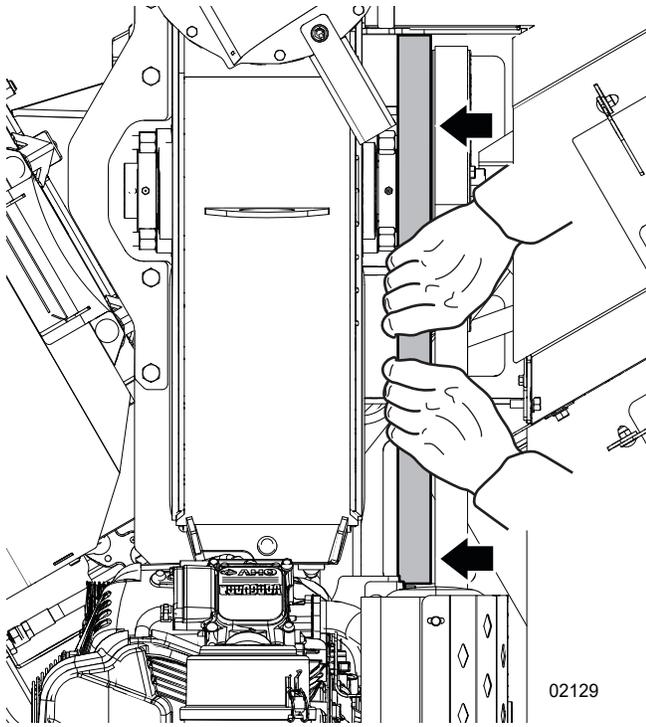

Figure 52—Rotor sheave alignment (straight edge shown)
1. Align a laser beam or straight edge (alignment tool) with the back edge of the rotor sheave and the engine clutch. See *Figure 52 on page 72*.